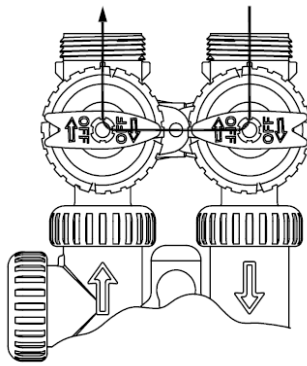

Figure 2
2. Bypass Position: inlet and outlet handles point to the center of the bypass. *Raw water is delivered through plumbing lines with treatment system isolated (Figure 2).*